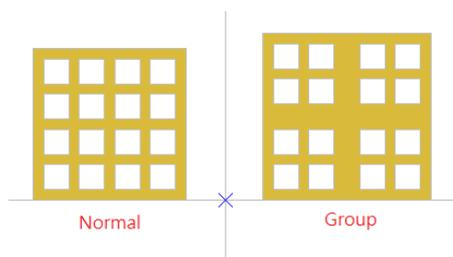

Fig. 3.3.25
**Group X/ Y:** Set the amount of the cells in an X/ Y direction as a group, see Fig.3.3.25.